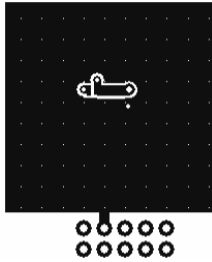
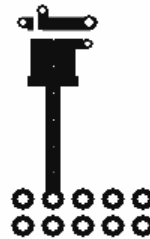

Figure 4. 1 Square Inch of 2-ounce Copper
Figure 5. Minimum Pads of 2-ounce Copper
$T_{\text{A}} = 25^\circ\text{C}$ (Note 2) (See Figure 4)	2.3
- The device power dissipation and thermal resistance (R_{θ}) are characterized with device mounted on the following FR4 printed circuit boards, as shown in Figure 4 and Figure 5.